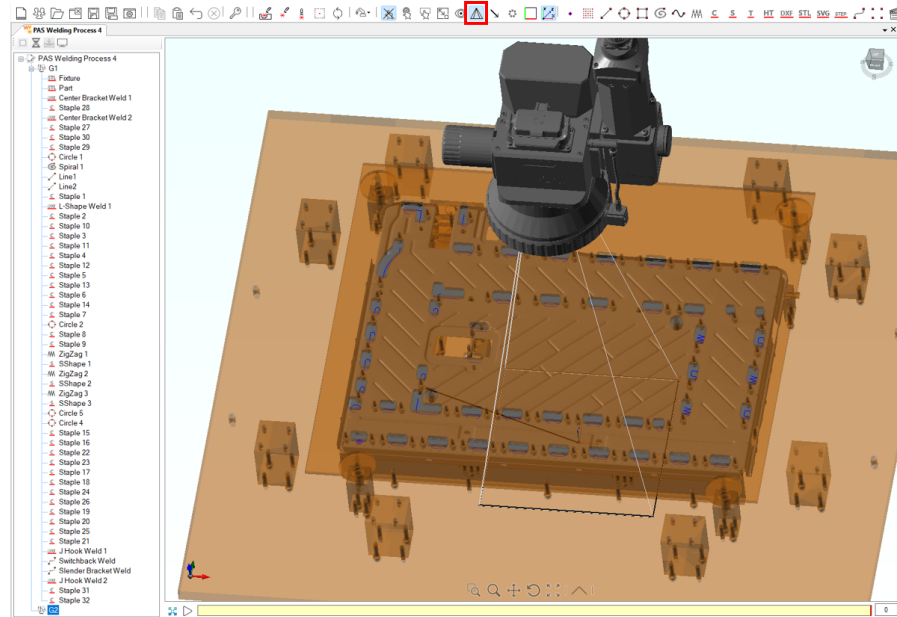

Figure 341: Enabling Projection Volume to Visualize the Scan Head Orientation
10. To check that the head is in the desired orientation after a Group has been positioned, enable the Projection Volume view in the toolbar. See Figure 341 (below).